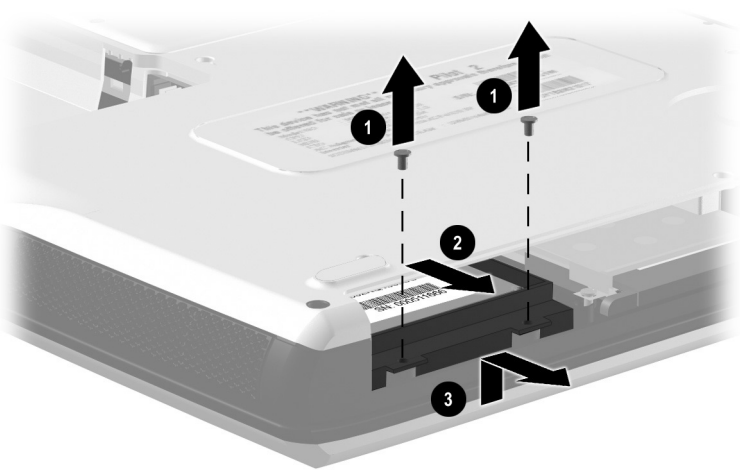

Figure 5-5. Removing the Hard Drive
- c. Remove the two PM2.0 × 5.5 screws ❶ that secure the hard drive bracket to the base enclosure (Figure 5-5).
- d. Slide the hard drive forward ❷ to unseat the hard drive connector from the system board.
- e. Lift the front edge of the hard drive bracket ❸ until it clears the base enclosure and slide the hard drive bracket out of the hard drive bay.